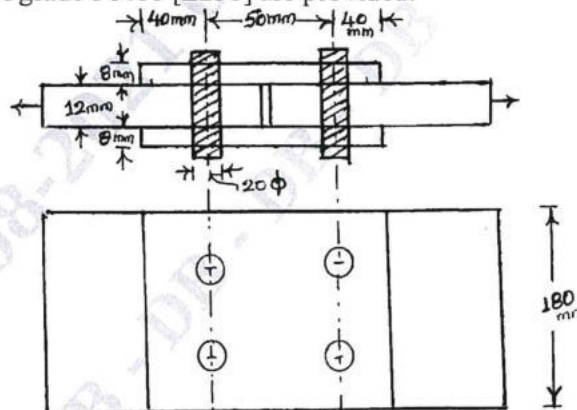

Fig.Q3(b)
- b. Find the efficiency of a butt joint shown in Fig.Q3(b). Black bolts of M20 and grade 4.6 and the plates are made of grade Fe410 [E250] are provided.